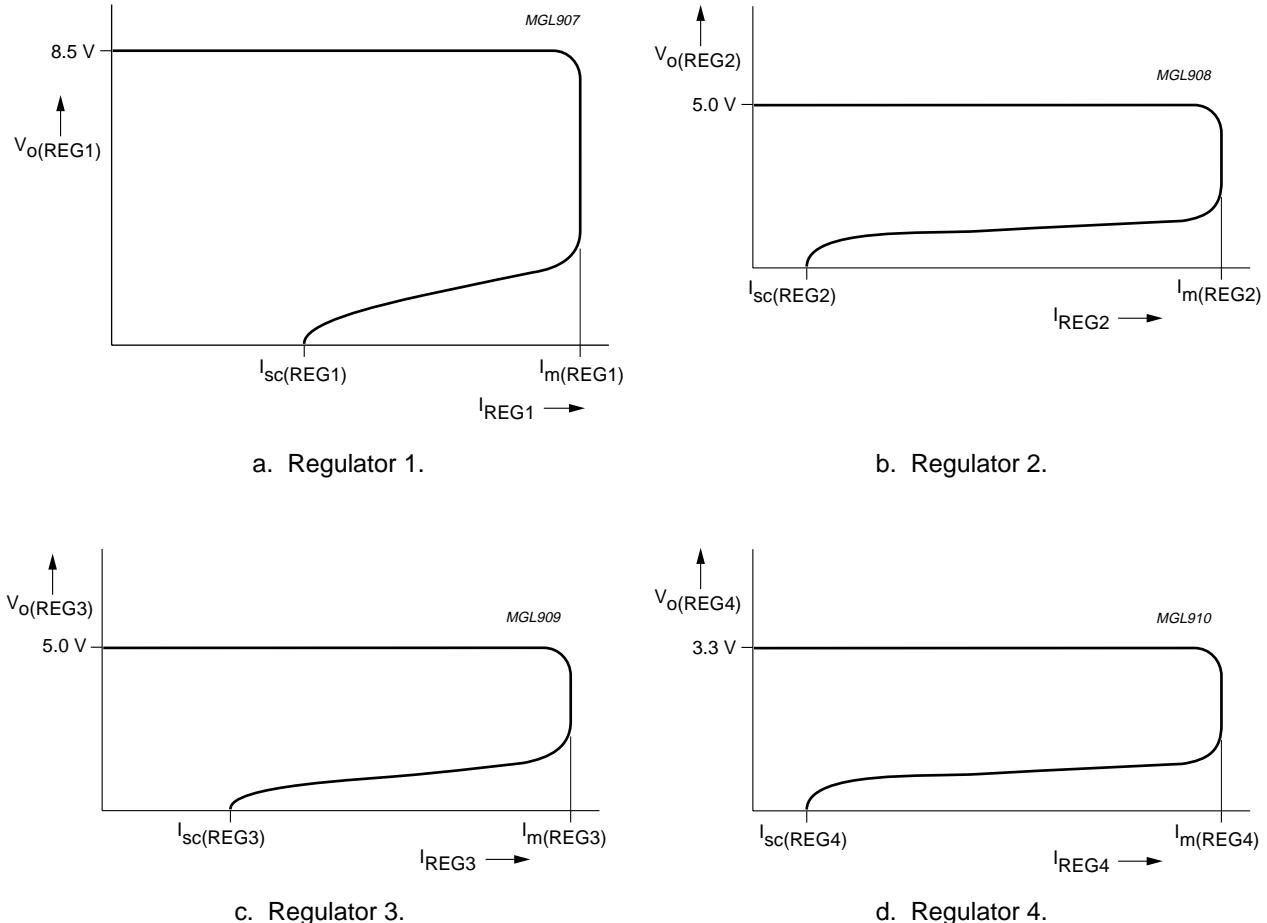

Fig.8 Foldback current protection of the regulators.
8. At current limit,  $I_{m(REGn)}$  is held constant (see Fig.8).
9. The foldback current protection limits the dissipated power at short-circuit (see Fig.8).